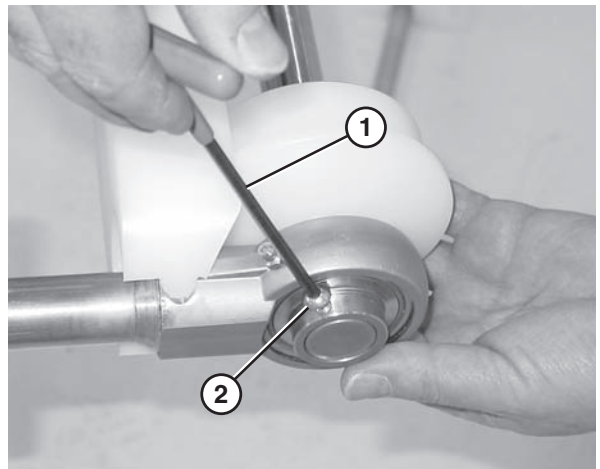

Figure 82
5. Use a hex wrench (Figure 82, item 1) to tighten the bearing shaft fasteners (Figure 82, item 2) to 54 in•lbs (6 N•m). Check after 24 hours of conveyor use.